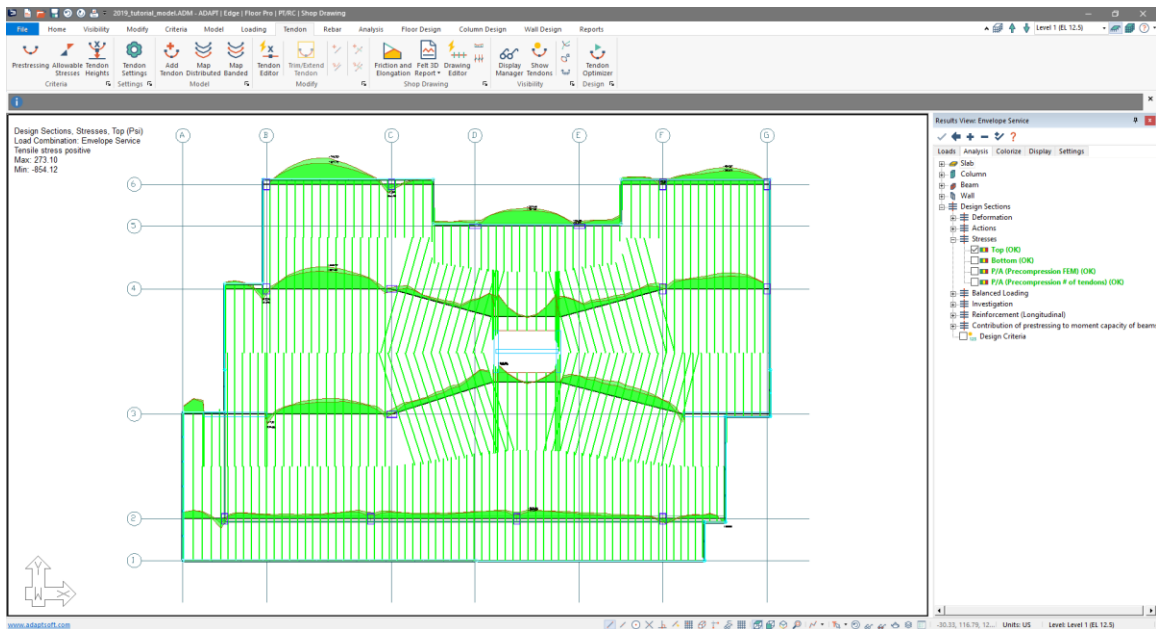
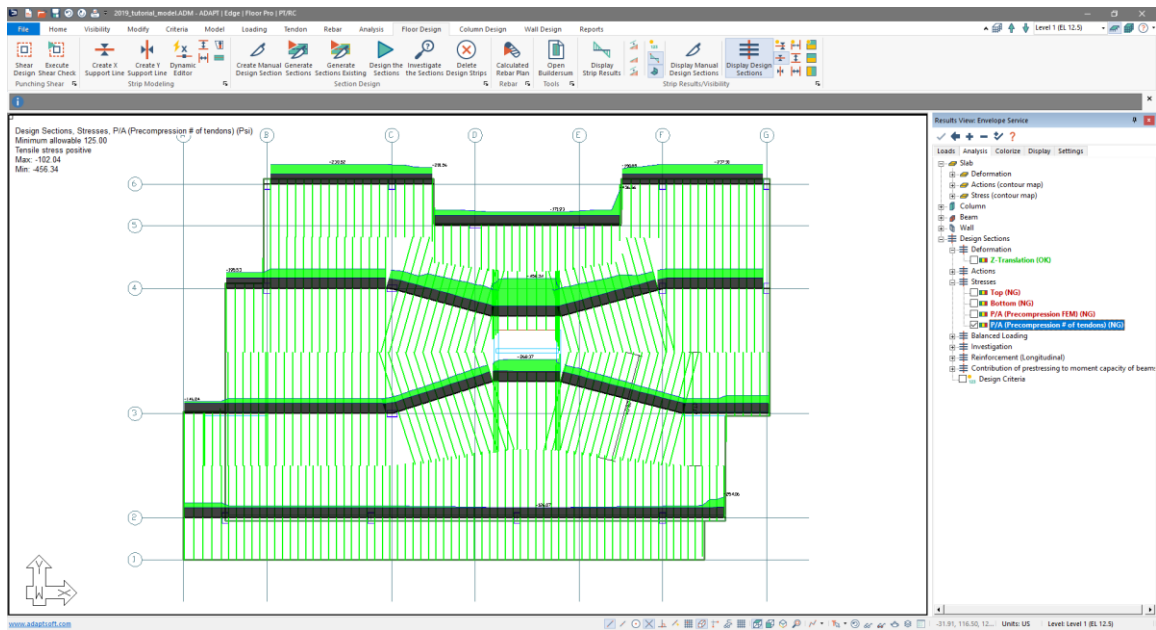

Figure 9-95 – Top Stress X-direction
Figure 9-97 – Precompression # of Tendons X-direction
- When the optimization and design is finished for the banded direction you should be able to review stresses and precompression for the X-direction support lines and see them all passing as shown in **FIGURE 9-95** through **FIGURE 9-97** below.